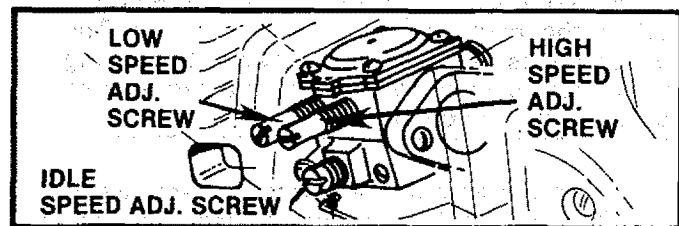

Figure 56
- d. Locate the three (3) Carburetor adjusting screws located on the fan housing side of the saw. Figure 56.